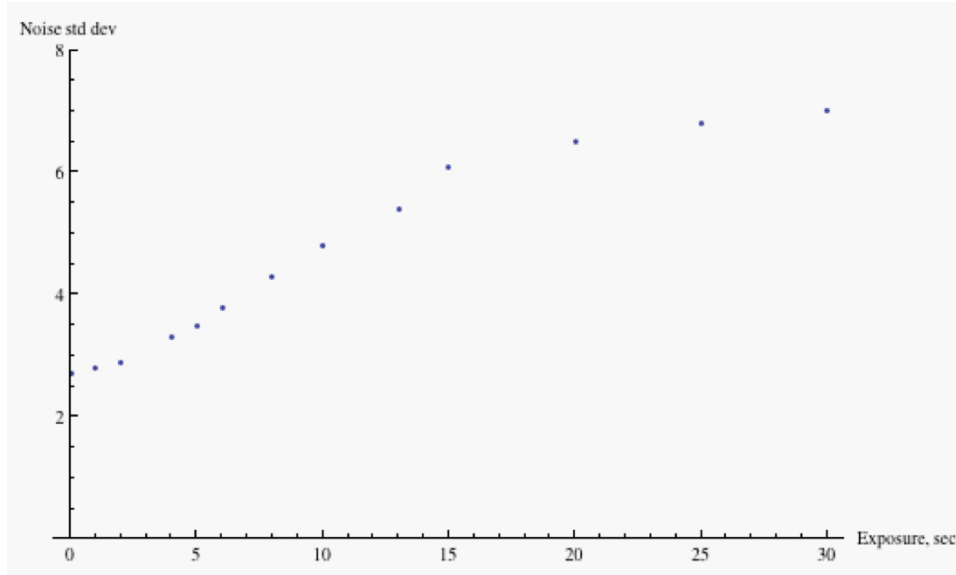

Figure 5: THERMAL NOISE
3. Repeat steps above for all the exposure values to get 100 datapoints. The expected graph must look like figure 5.